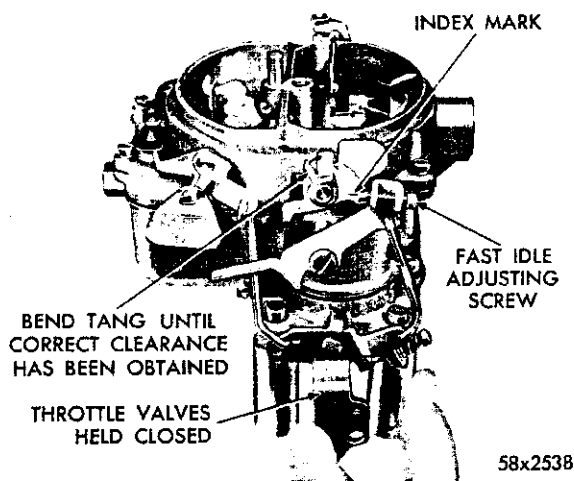

Fig. 17—Fast Idle Index Mark Aligned
(1) Open the throttle valves and hold the choke valve in the fully closed position. Close the throttle valves. This will position the fast idle cam to the fast idle position.
(2) Release the choke valve only. The index mark on the cam should split the center of the fast idle screw shank, as shown in Figure 17.